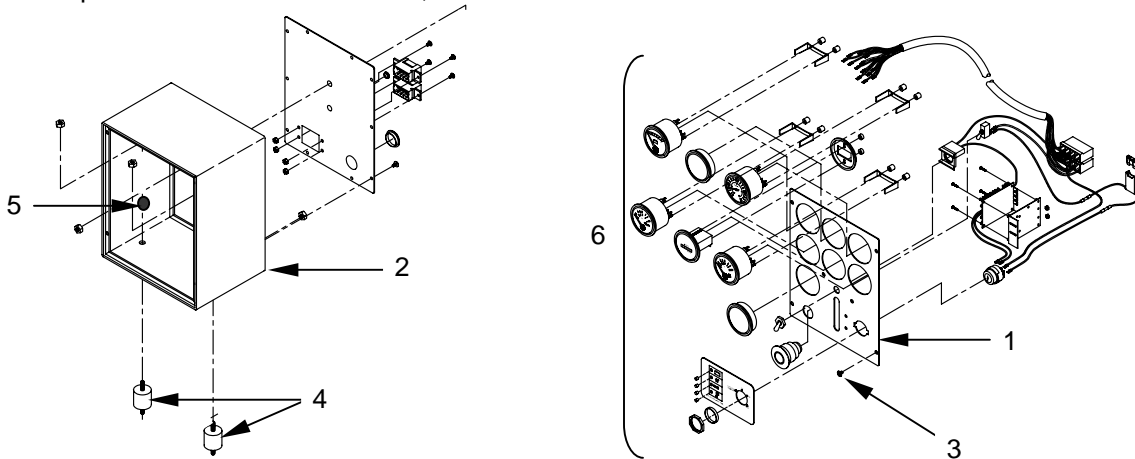
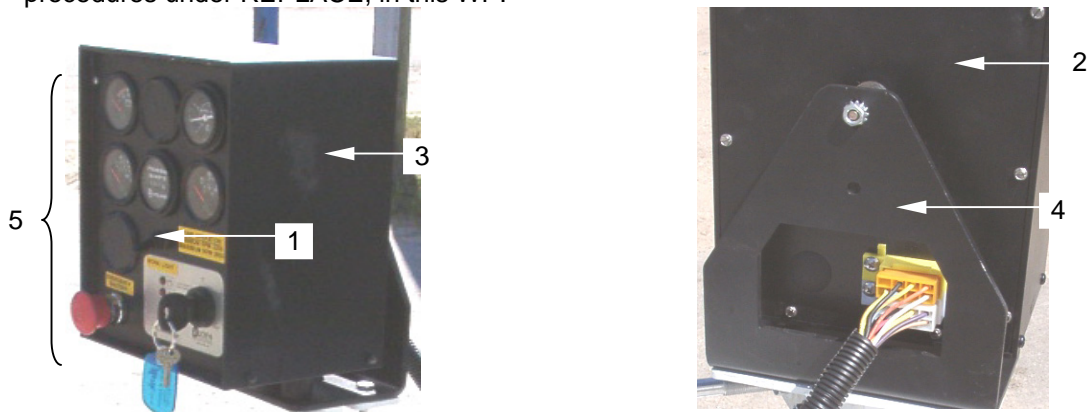

Figure 6. Removal of Frontpanel
Figure 7. Control Panel Components
8. To remove the frontpanel (**figure 6, item 1**) from the enclosure (**figure 6, item 2**), remove four hex screws (**figure 6, item 3**) that hold the panel to the enclosure.
9. If enclosure is being replaced, remove bottom isolation mounts (**figure 6, item 4**) from enclosure. Retain hex nuts (**figure 6, item 5**).
To remove the individual components (**figure 6, item 6**) mounted on the frontpanel, follow the procedures under REPLACE, in this WP.
10. Replace a bent, dented or otherwise damaged front panel (**figure 7, item 5**), backpanel (**figure 7, item 2**), enclosure (**figure 7, item 3**), mounting bracket (**figure 7, item 4**) that cannot be repaired or straightened out. Also replace deteriorated isolation mounts (**figure 6, item 4**),
To install the components mounted to the front panel (**figure 7, item 5**), follow the procedures under REPLACE, in this WP.